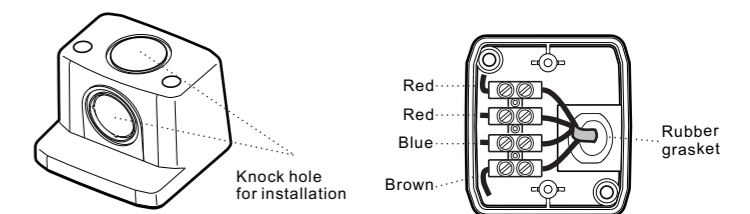

FIG.7
- 3.4.2 Select a knock out hole on a connection box base, insert the load and power cable through rubber gasket and the knock out hole, then use screws to fix the cable firmly with cable clamp (See FIG.7).